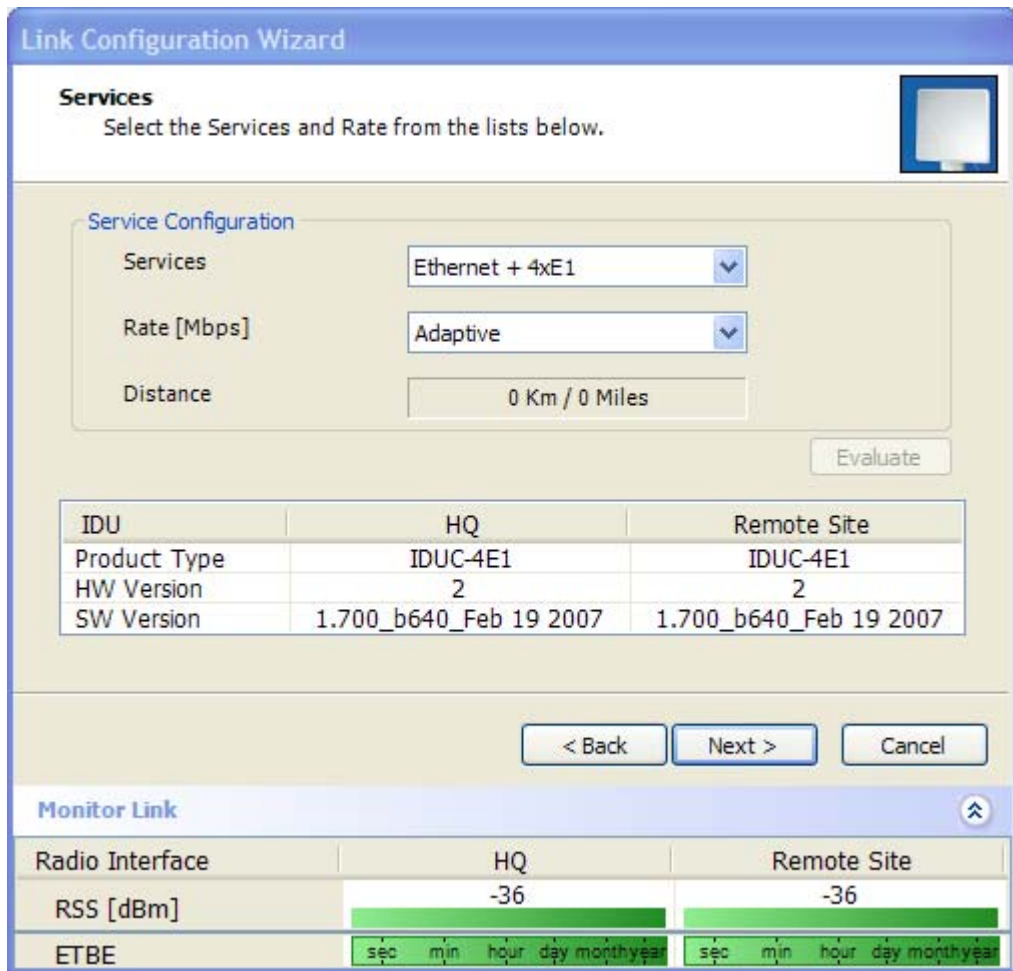

Figure 4-6. Service Parameters Dialog Box, E1/T1 Interface
- Ethernet plus a number of E1/T1 channels (see Figure 4-6).